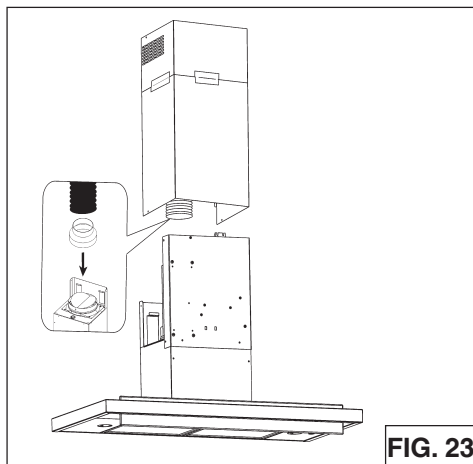

FIG. 23
8. Stretch expandable duct, attach it to the 6"-to-8" adapter and tape duct joints (Fig.23).